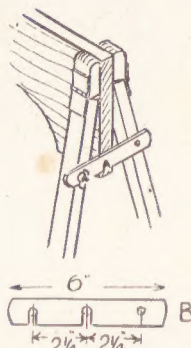

Fig. 2—Fixing details
headed screw. Do not screw right home but leave enough of the screw sticking out for the metal ties (B) Fig. 2, to slip under. These ties can be made from $\frac{1}{8}$ in. thick iron bar, about 1 in. wide. At the points shown drill three holes, the left side one $\frac{3}{8}$ in. and the rest to suit the round-headed screws already mentioned.
across the ends of each pair of legs, as in detail sketch, Fig. 2, with a stout round-headed brass screw in the right hand hole.